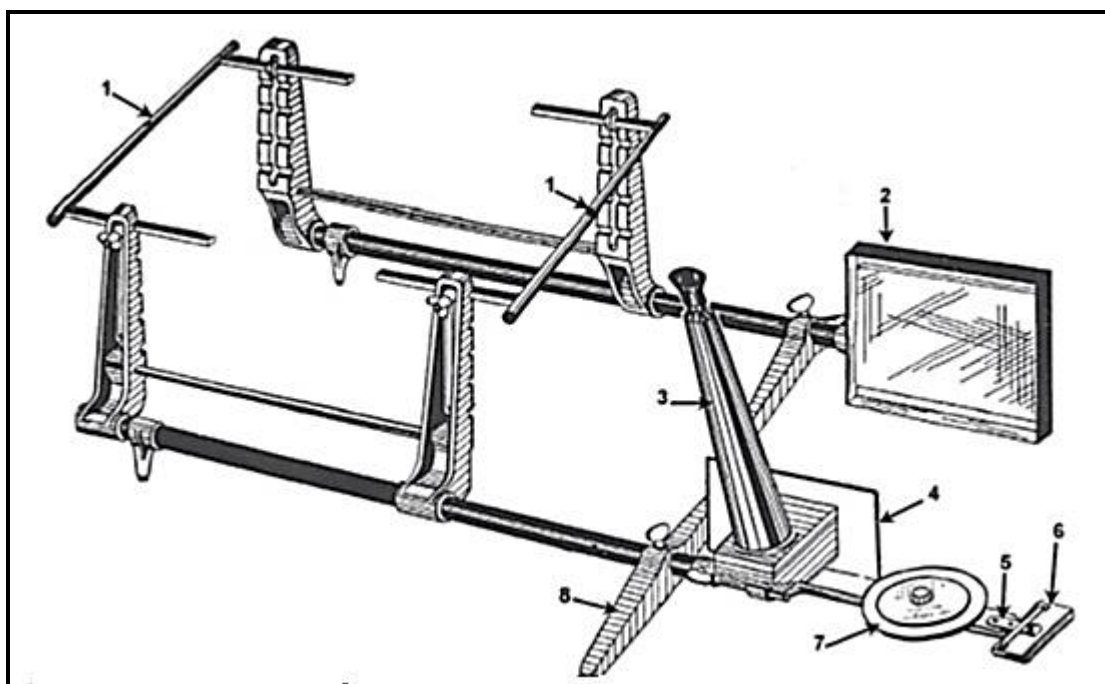

FIGURE 5.2
- 5.2 The diagram in FIGURE 5.2 below is a periscopic optical alignment tool. Label parts **1–8**.
- 5.3 What is the function of the equipment displayed in FIGURE 5.2? (1)